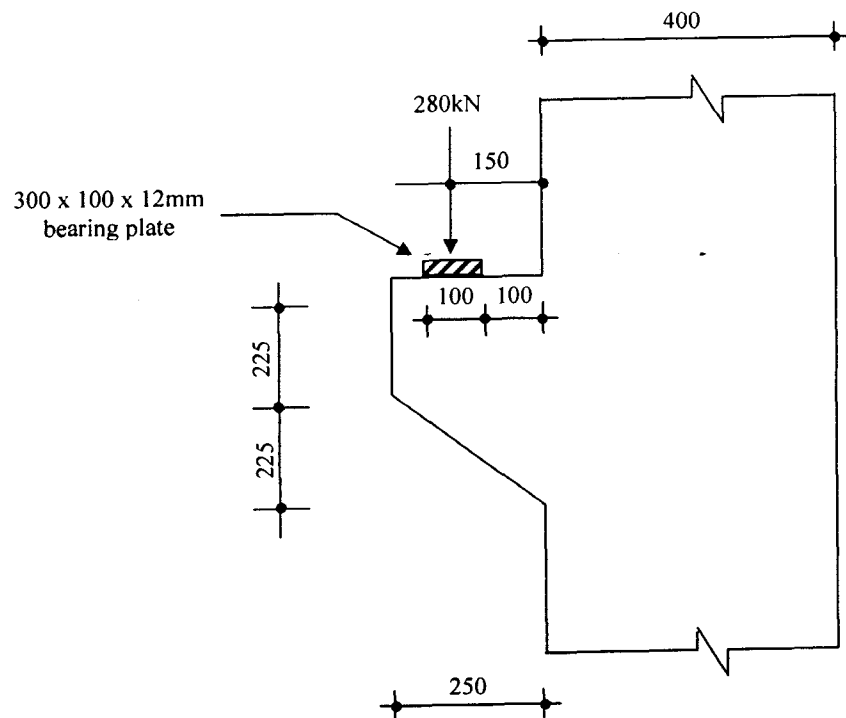

Figure 5 : Reinforced Concrete Corbel
- (b) A single reinforced concrete corbel projecting from 400 x 400 column is designed to support precast beam reaction forces at 150mm from the face of the column as shown in Figure 5. The factored vertical load out is 280kN. Design and provide sectional detailing of the corbel using strut and tie method. Assume the center of the uppermost tie is 50mm from top of the corbel. The characteristic strength of concrete and reinforcement is 35N/mm^2 and 460N/mm^2 respectively. Part of the code provisions (ACI 318-02) is provided in Appendix C.